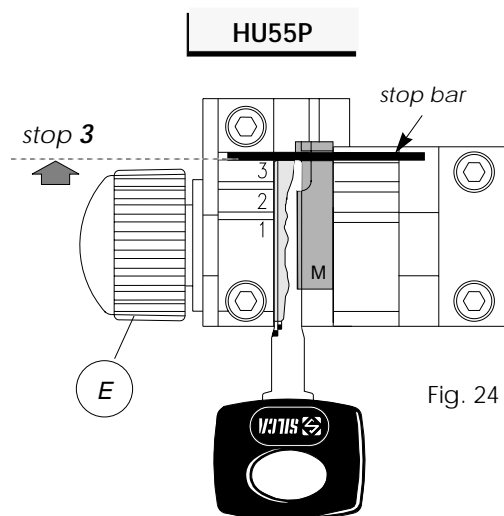

Fig. 24
- place the adapter on the left-hand jaw and align the notch with "stop 3" (Fig.24).
- secure the adapter and key by tightening knob (E).